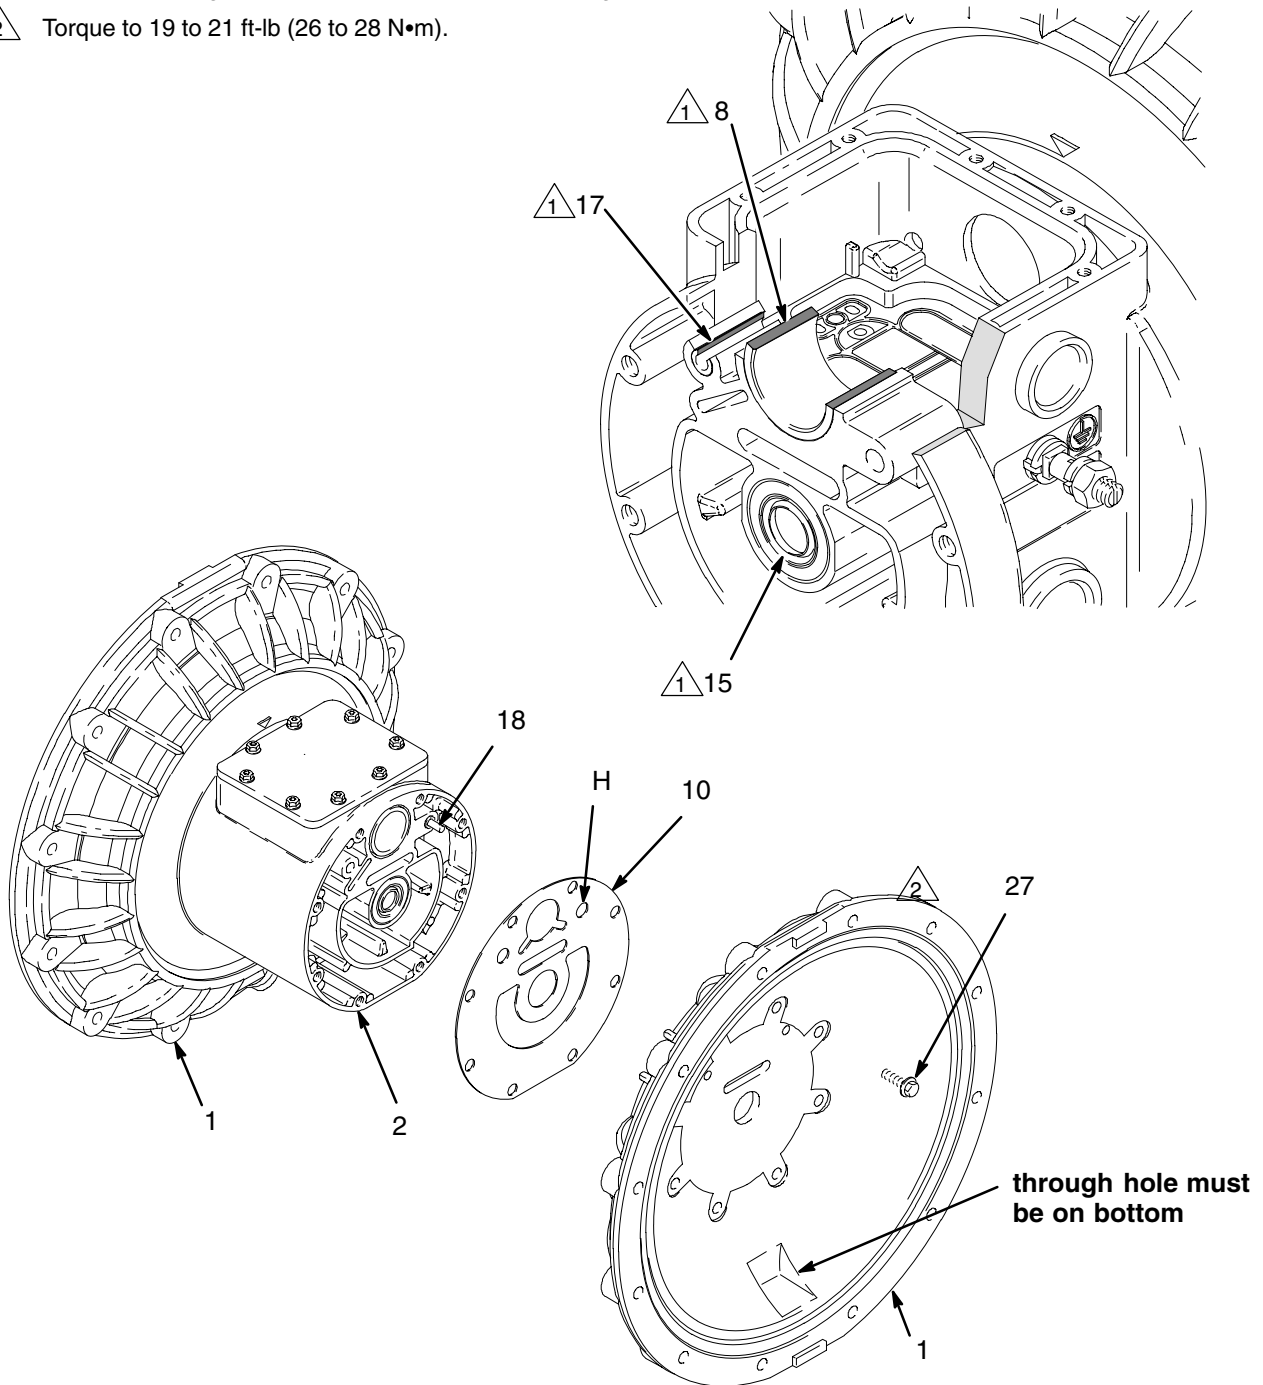

Fig. 9
Removing and Replacing Bearings and Air Gasket (See Fig. 9)
- NOTE:** If you are removing only the diaphragm shaft bearing (8), skip step 4.
5. Using a 13-mm socket wrench, remove the screws (27) holding the air covers (1) to the center housing (2). See Fig. 9.
6. Remove the air cover gaskets (10). Always replace the gaskets with new ones.
7. Use a bearing puller to remove the diaphragm shaft bearings (13), piston actuator bearings (8), and push pin bearings (17). Do not remove any bearings if they are not damaged.